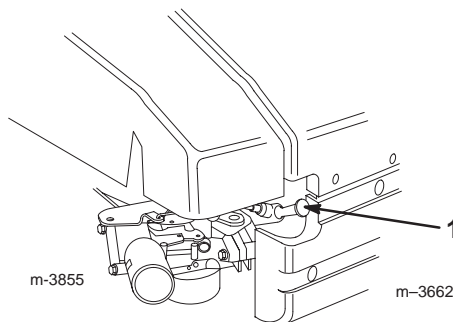

Figure 10
1. Disconnect the wire from the spark plug (Fig. 10).
- Disconnect the wire from the spark plug (Fig. 10).
7. Connect the spark plug wire (Fig. 10).
2. Remove the wire from the spark plug (Fig. 10).
2. Disconnect the wire from the spark plug (Fig. 10).
8. Connect the wire to the spark plug (Fig. 10).